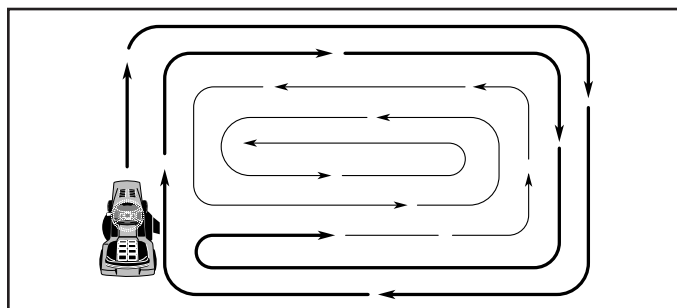

FIG. 12
- When mowing large areas, start by turning to the right so that clippings will discharge away from shrubs, fences, driveways, etc. After one or two rounds, mow in the opposite direction making left hand turns until finished (See Fig. 12).